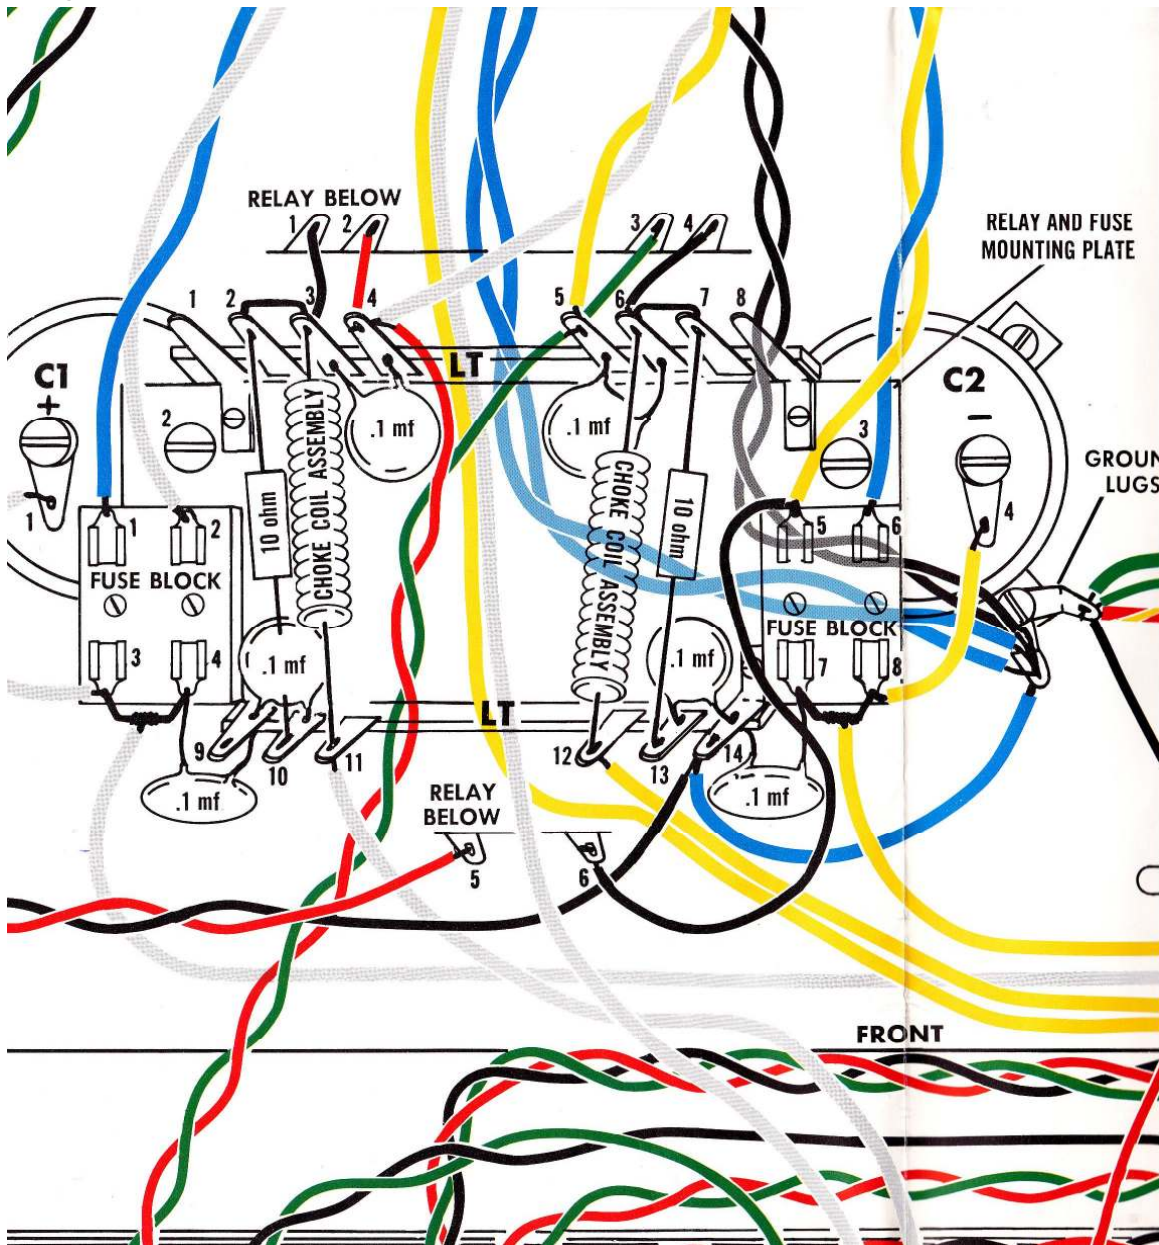
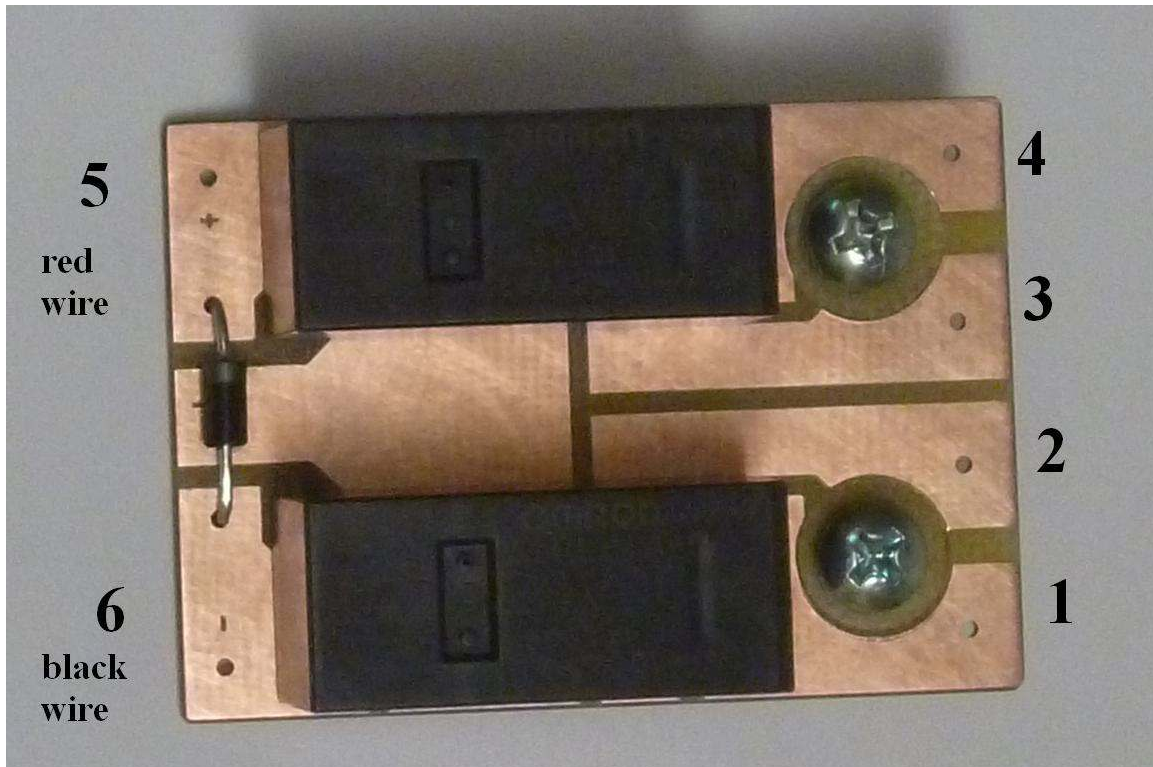

Figure 1-Stereo 400 Wiring Diagram Excerpt
Figure 2-Component side of the relay board
4. Make masking tape tags numbered 1 thru 6 and place them over the wires that attach to relay terminals 1-6 as shown in Figure 1.
6. The two relay retaining screws are hidden under the two 0.1 μ F capacitors shown in Figure 1. Carefully lift them up.
1. Transfer the wires from the old relay board to the new relay board. Observe the numbers carefully in Figure 1 and Figure 2. Match the numbers on the masking tape labels to the numbers shown in Figure 2.